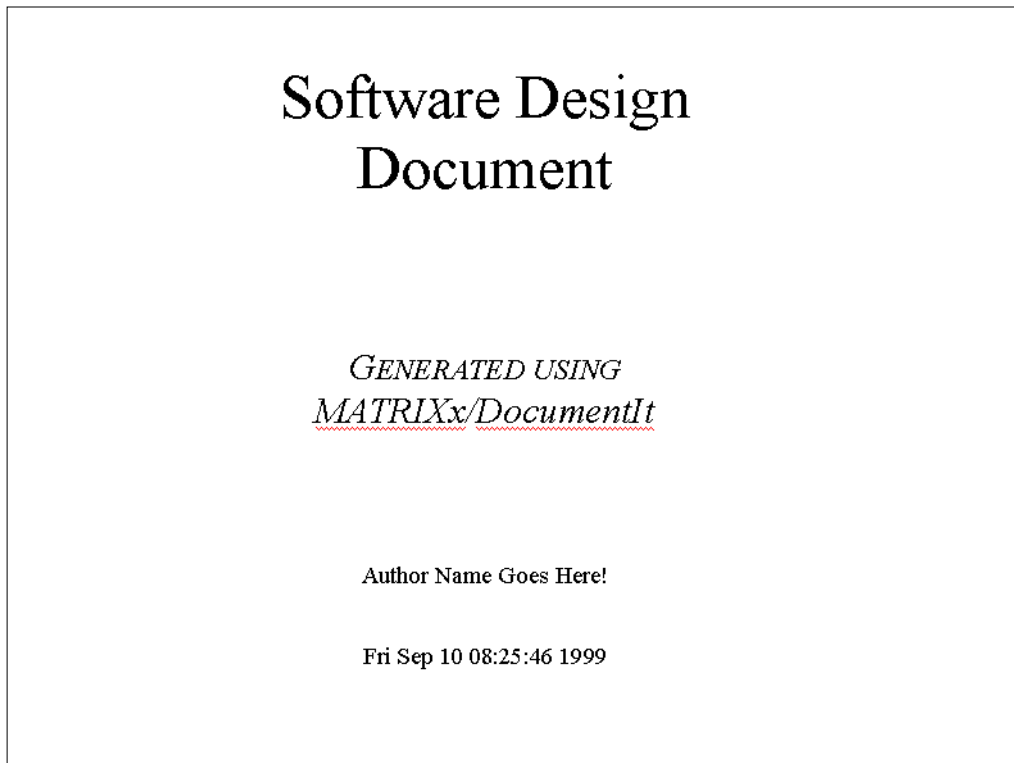

FIGURE E-1 Generic Title Page
1. The document file that you have generated (in this case, `Controller_Logic.doc`) includes a generic title page that appears after it is imported into Microsoft Word (as shown in Figure E-1 on page E-6). If you want to change the data on the title page or change the template TPL commands, you can accomplish this in three different ways (see Using Your Own Templates on page E-1):